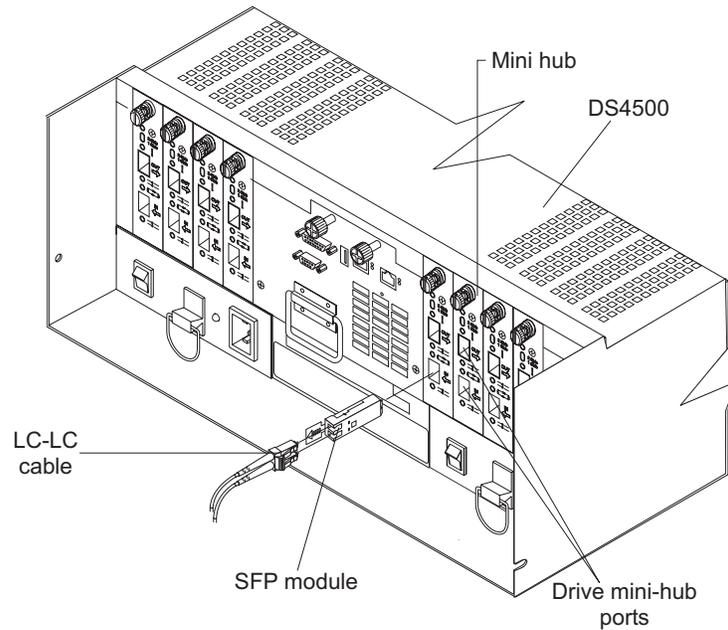

Figure 34. Installing an SFP module and LC-LC cable in a DS4500
2. Connect an LC-LC fiber-optic cable into the SFP module, as shown in Figure 34 on page 45.